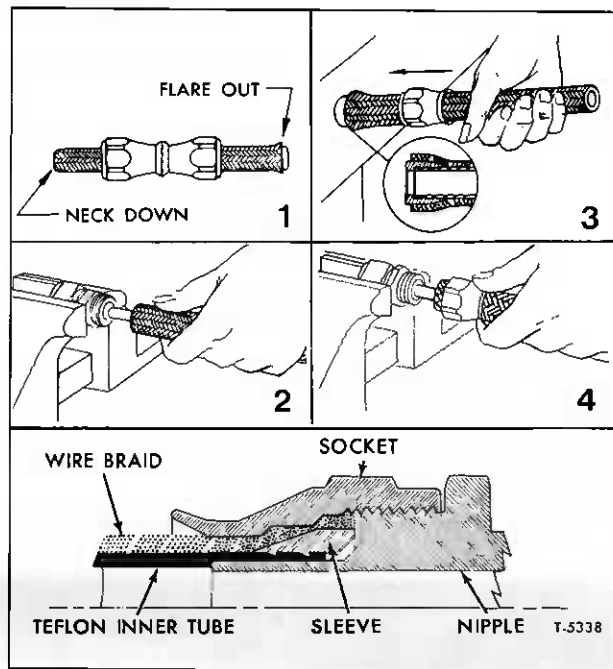

Figure 4—Teflon Hose Assembly
Refer to figure 4 for sectional view of teflon hose.
2. Remove tape and trim any loose wires flush with the tube stock. Any burrs on the bore of the tube stock should be removed with a knife. Sometimes wire braid will tend to "neck down" on one end and "flare out" on the opposite end. This is a characteristic of wire braid hose and can be used to an advantage in the assembly of the fittings (item 1, fig. 4).
3. Slip two sockets back-to-back over the "neck down" end of the hose. Position the sockets approximately three inches from each end (item 1, fig. 4).
4. Mount nipple hex in a vise. Work the hose bore over the nipple to size the tube and aid separating the braid from the teflon inner tube. Remove the hose from the nipple (item 2, fig. 4).
5. Push the sleeve over the end of the inner tube and under the wire braid by hand. Complete positioning of the sleeve by pushing the hose end against a flat surface (item 3, fig. 4).
8. Hold nipple hex in a vise. Push the hose over the nipple with twisting motion until seated against the nipple chamfer (item 4, fig. 4).